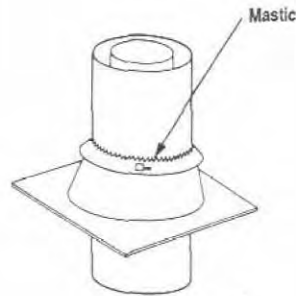

Figure 32
**Step 8.** The standard Superior roof flashing assemblies include a storm collar. Slide storm collar over outer chimney, align with top surface of flashing, insert storm tab in slot, pull tight and bend tab back over slot. Seal storm collar to outer chimney with roof caulking or mastic around entire circumference of pipe. Also add extra roof caulking where storm collar meets flashing and to the tab/slot area to seal completely against water penetration (Figure 32). Check all joints very carefully to ensure no water intrusion can take place.